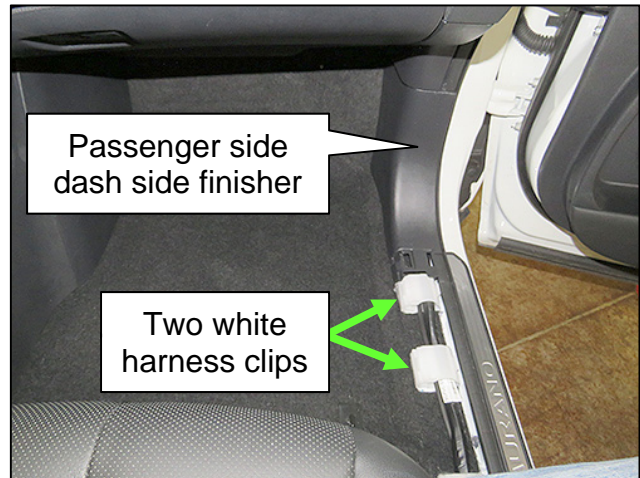

Figure 15
15. Use a trim panel tool to disconnect the two (2) white harness clips, shown in Figure 15, from the body.